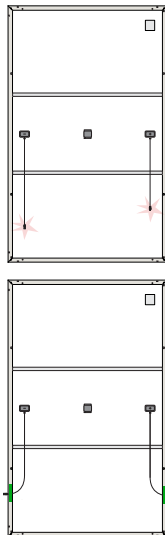

Figure 5. Fixing of cables and connectors
- To avoid the damage of the back sheet by the connector, fix the cables to the frame with tape after unpacking. (refer Figure 5)